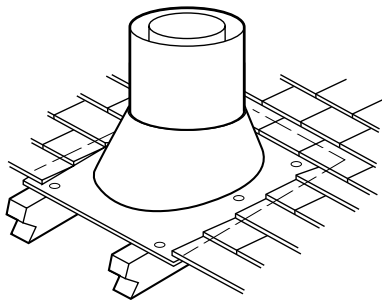

Figure 28
Step 7. Secure flashing by nailing along the perimeter into roof using 8d nails. If shingled roof, slide upper end and sides of roof flashing under shingles (trim if necessary), seal the top and both sides of the flashing to the roof with roof caulking. Cover nail heads with roof caulking (*Figure 28*).